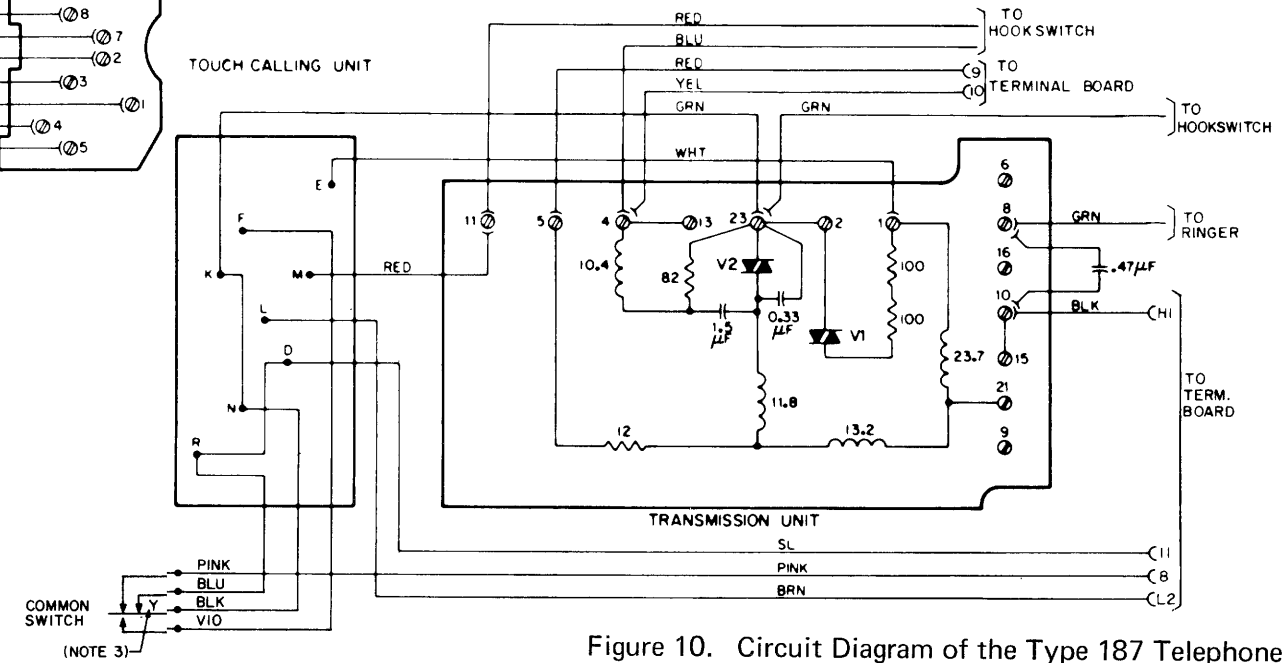

Figure 10. Circuit Diagram of the Type 187 Telephone Set with Touch Calling Unit.
2.25 The circuit diagram of the rotary dial equipped Type 187 Telephone Set is shown in Figure 9. Figure 10 contains the circuit diagram of the Type 187 Telephone Set equipped with a Touch Calling unit. Interconnections between set components and line cord conductors are made at a 26-point terminal board mounted on the chassis to the left of the dial or Touch Calling unit. Six additional terminals without screws are used to connect three indicators for the line holding bridges which are mounted on the top of the terminal board. Their associated resistors are mounted underneath the terminal board. These connections and connections to the key assemblies are soldered to lug protrusions of the terminals beneath the terminal board. All other connections are made by means of screws and spade lugs. The handset cord is equipped with a J-hook strain relief clamp at its point of exit from the telephone set.